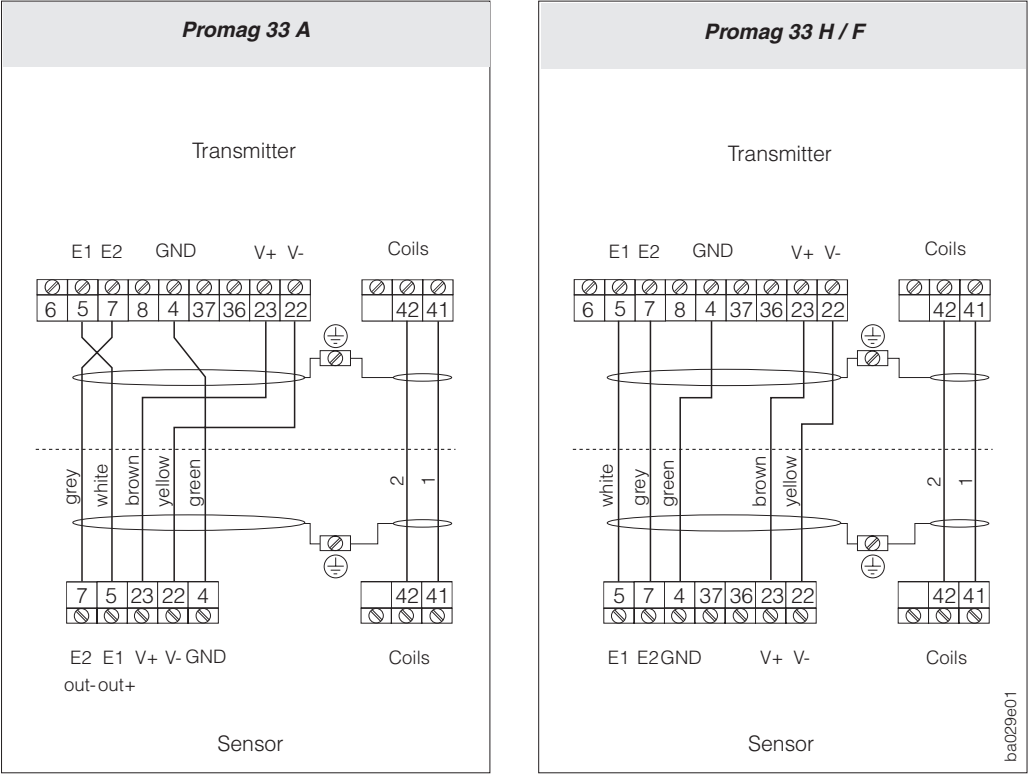

Fig. 26
4. Connect the sensor / transmitter cable according to the wiring diagrams (see Fig. 26).